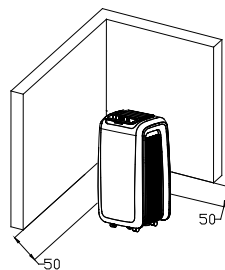

fig. 4
5. Make sure the unit is upright and there are no obstructions to the air inlets and outlet grills(see fig 4)